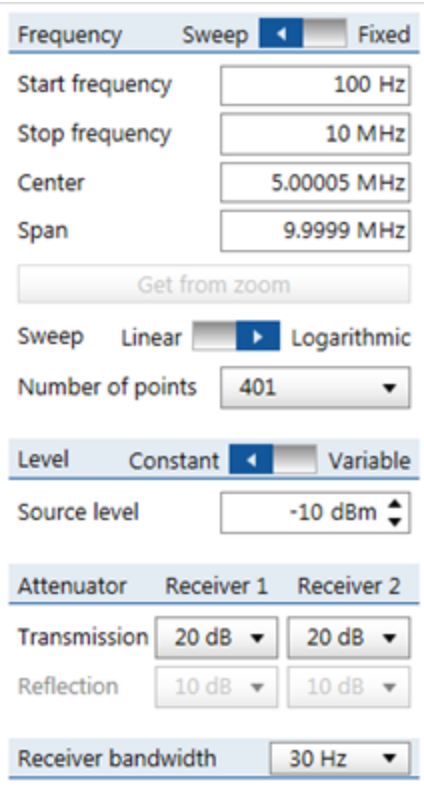

Figure 6. Bode 100 setup.
2. The Bode 100 is set up as follows (see **Figure 6**):